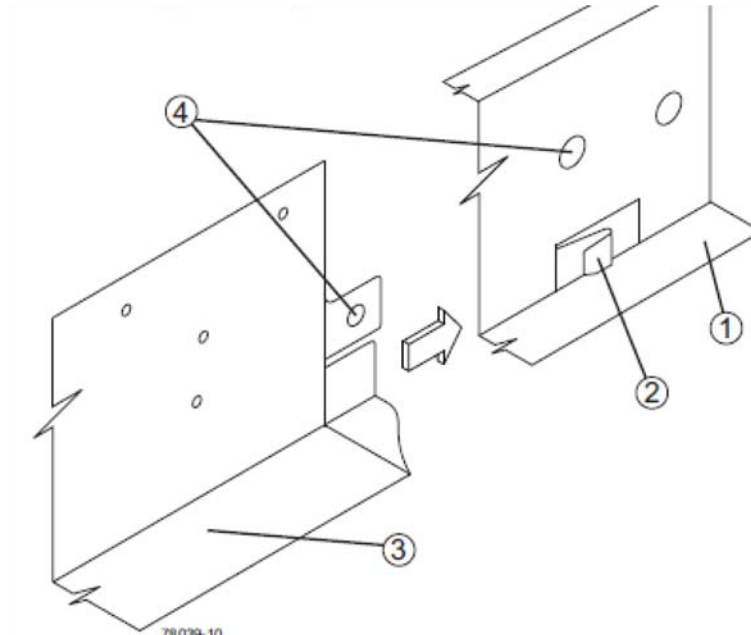

Figure 2-10 Sliding the Storage Enclosure into the Clip on the Mounting Rail
- The rear edge of the storage enclosure sheet metal fits into the clip on the mounting rail (reference Figure 2-10).